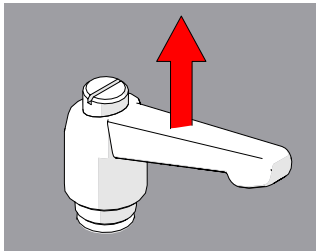

Fig. 99 - Pull ratchet handle
1. Pull the ratchet lever away from the base to which it is connected (*Fig. 99*).